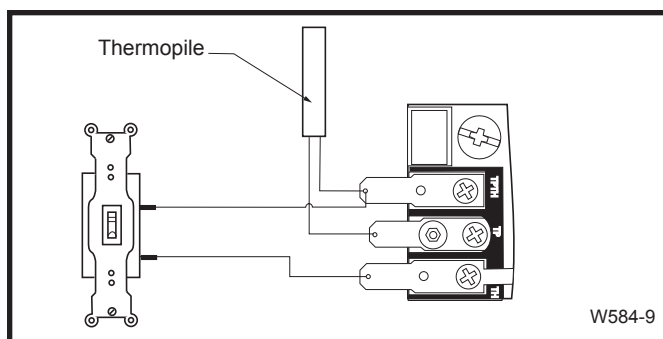

Fig. 13 Remote switch wiring.
3. Connect wiring to gas valve. (Fig. 13)